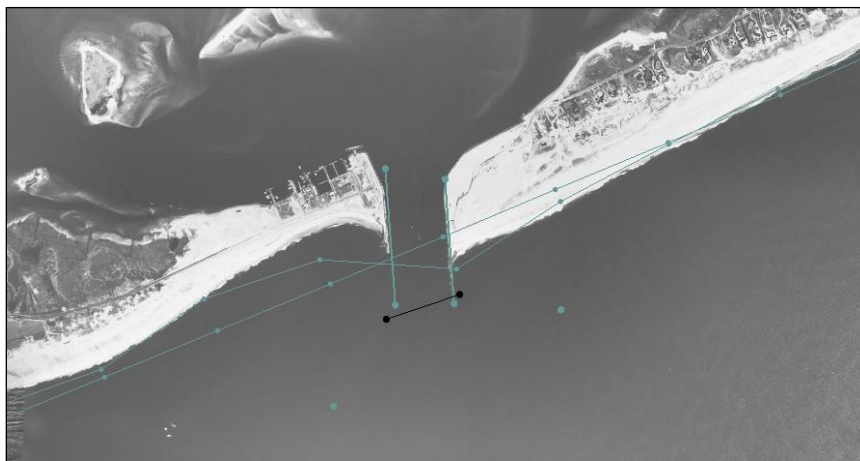

Figure 2 Shinnecock Inlet
2. **Frame**  the project and **Zoom**  to the last inlet on the right (Figure 2).
3. Using the **Select Feature Arc**  tool, double-click on the inlet arc (the black arc in Figure 2) to bring up the *GenCade Arc Attributes* dialog.